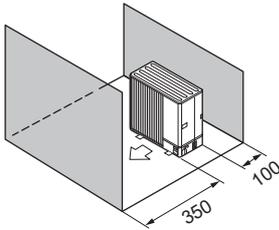

Fig. 1-10
- (5) Obstructions or closed surfaces at front and rear only (Fig. 1-10)